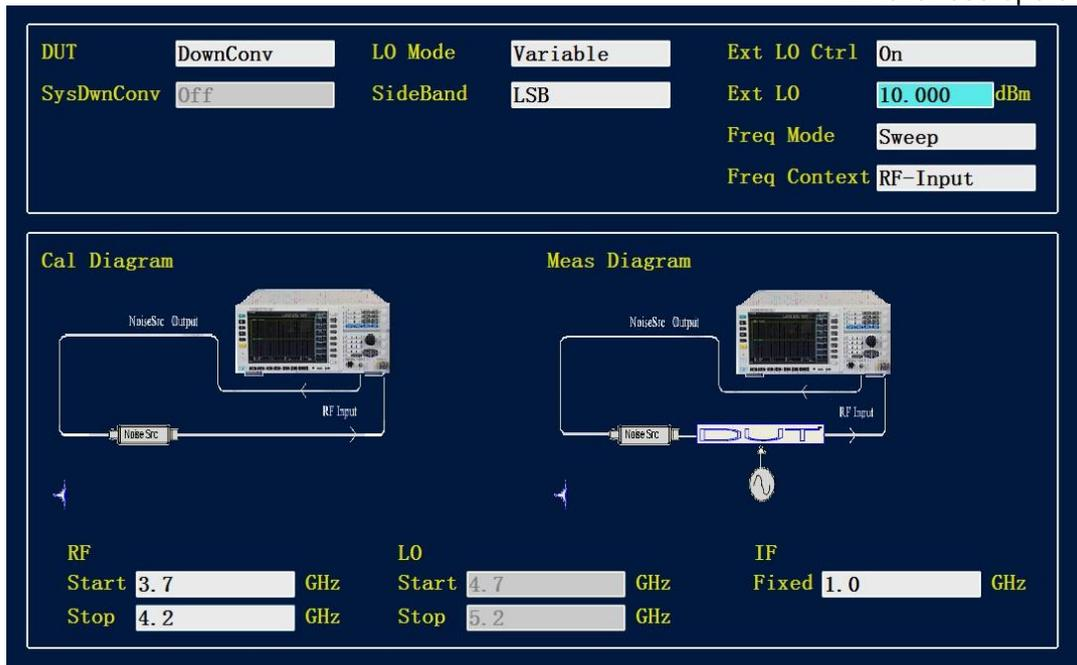

Fig. 4.26 Mode Setup interface
- Step 9.** Activate the fixed IF frequency input box, input "1" with the numeric key, and press [GHz] unit key to complete the input. Mode Setup interface is as shown in Fig.4.26: